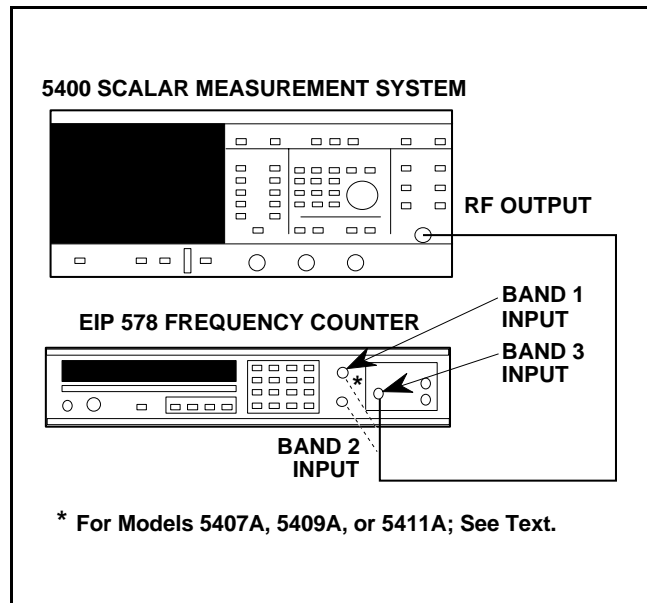

Figure 5-1. Equipment Setup for CW Frequency Test
1. Connect the test equipment as shown in Figure 5-1 and turn the equipment on.